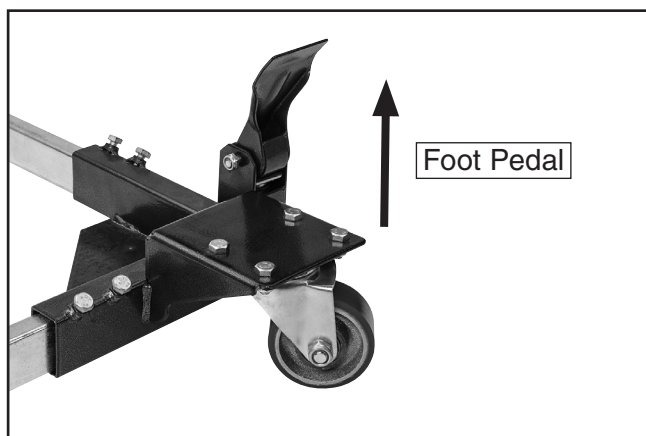

Figure 23. Foot pedal raised.
4. Raise foot pedals up to lift rubber feet and move machine (see **Figure 23**).